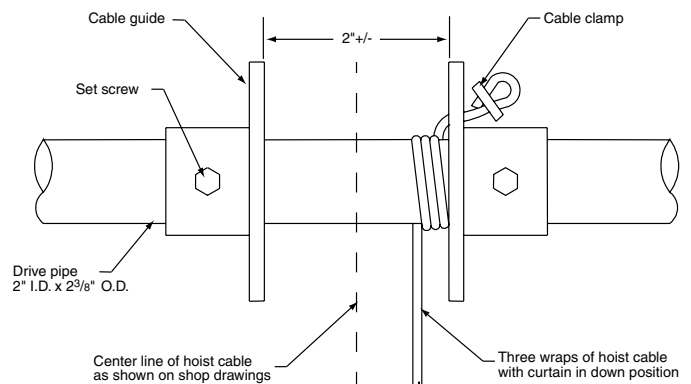

Figure 4
- ③ Make small cuts in the top pockets to attach the cables around the 1 5/8" pipes.
- ④ Operate the winch to raise the curtains into position.
- ⑤ Once raised to proper height, attach the chains from the drive pipe support assemblies around the top pipes and disconnect the cable. A small cut is required in the pocket for the chain.
- ⑥ Relocate cable guide sleeves and set distance (see Fig. 4).
- ⑦ Thread cables through grommets. Pull tight and attach around 1 5/8" pipes. A small cut is required in pocket for the cable.